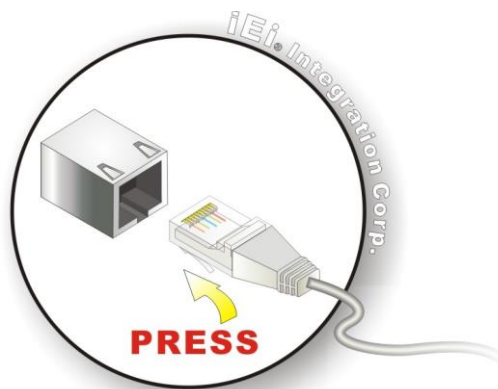

Figure 3-26: LAN Connection
Step 2: Align the connectors. Align the RJ-45 connector on the LAN cable with one of the RJ-45 connectors on the DRPC-243-MTL. See **Figure 3-26**.